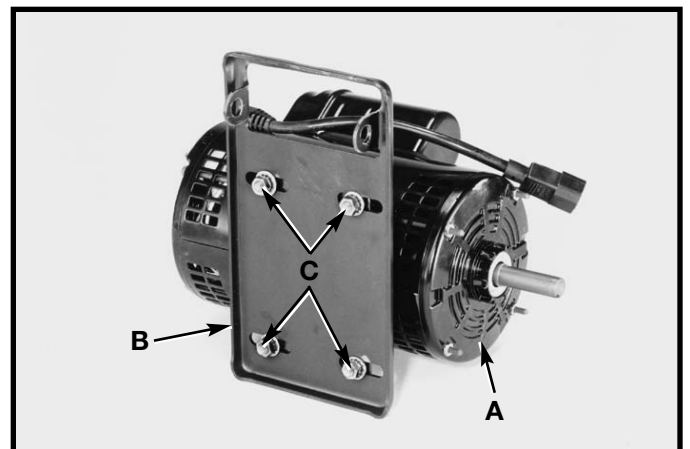

Fig. 11
1. Assemble the motor (A) to the motor mounting plate (B) as shown in Fig. 11, using four 5/16-18 carriage bolts, flat washers, star washers, and hex nuts (C). Insert bolts through the holes in motor base and mounting plate, then assemble flat washers, then star washers, and hex nuts.